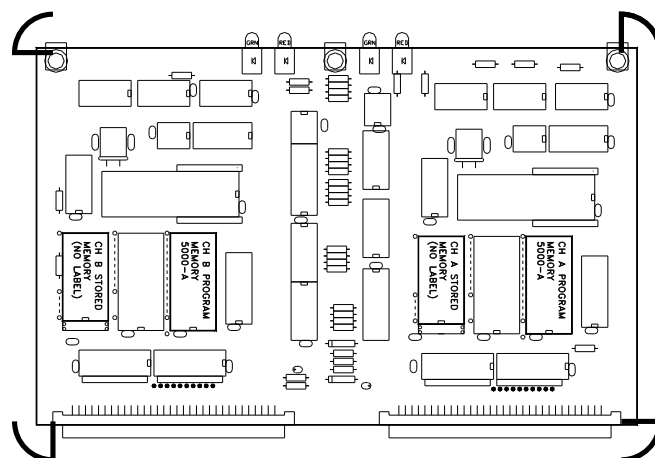

Figure A.8: OmniLink 5000 Logic Module Circuit Board
- ◆ Using Figure A.8, locate and remove chips 5000-A and 5000-B.